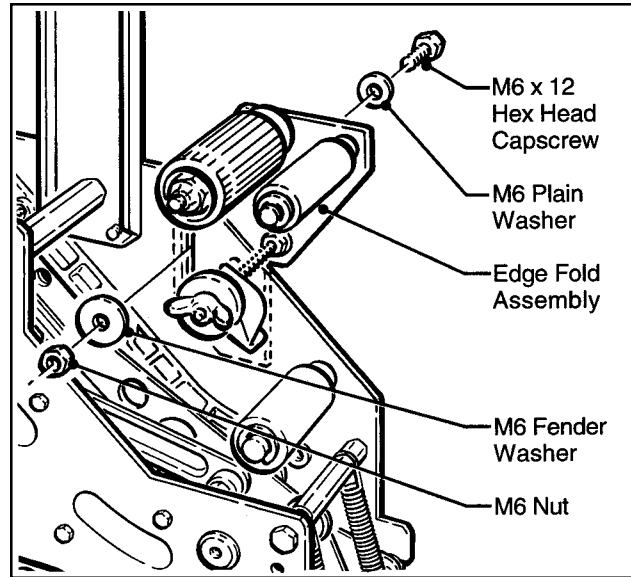

Figure 2
2. Attach edge fold assembly to back side of taping head frame with M6 x 12 hex head capscrew (screw that held tension roller to frame in Step 1), M6 plain washer, M6 fender washer and M6 hex nut as shown in Figure 2. Before tightening capscrew, be sure slots in edge fold assembly and slots in taping head are lined up together.